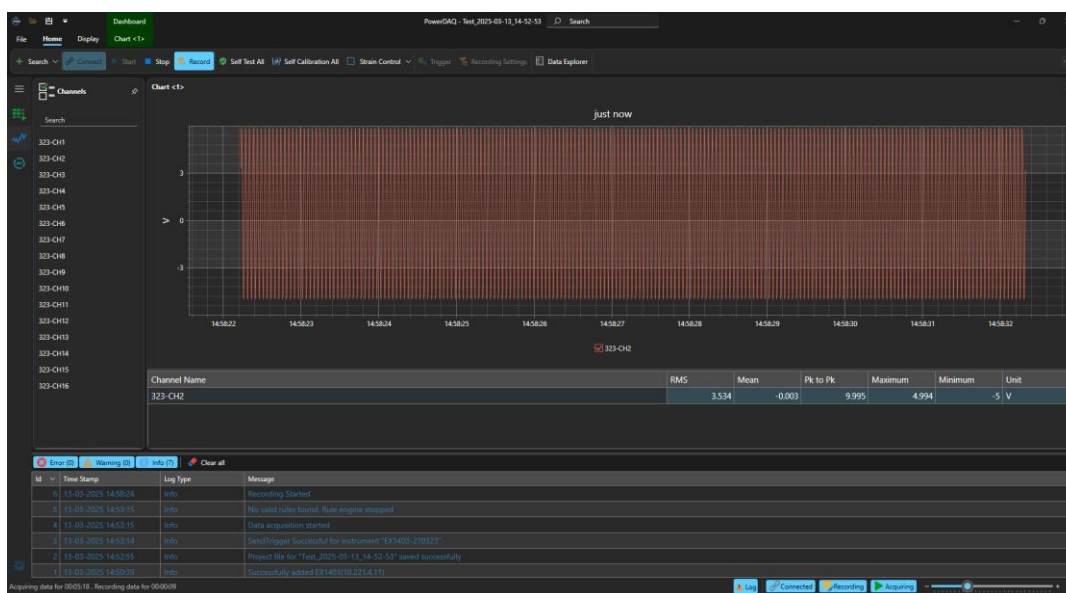

Figure 30. Record Data
1. Click the **Record** button on the **Chart<1>** to start recording the data. Refer to Figure 30.